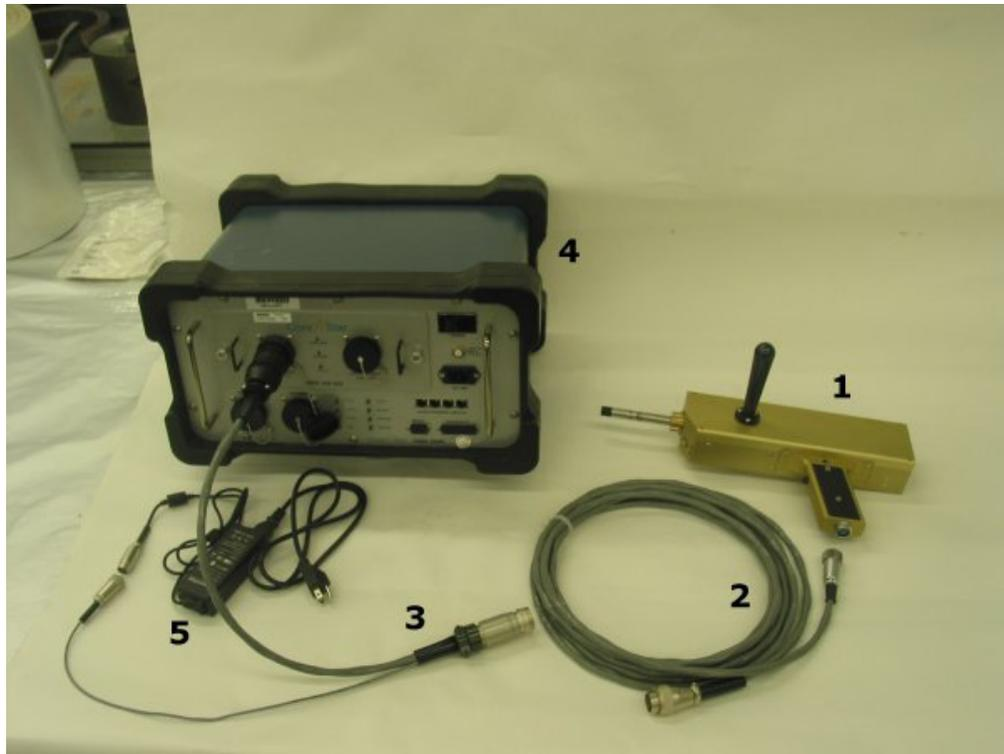

Figure 4
Figure 4 shows the following features:
1. Assemble the components as shown in figure 4. Connect from the tester to the computer used for testing.